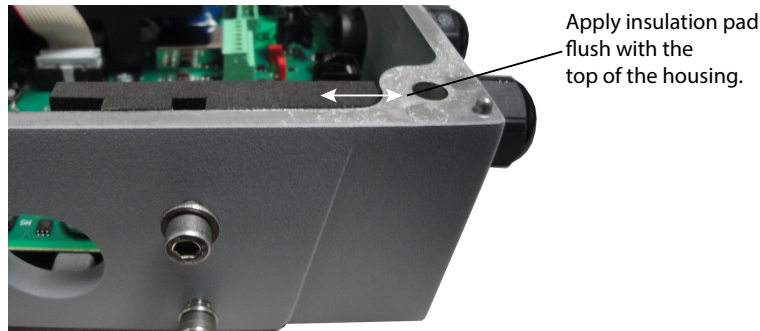

Figure 4: Installing foam insulation pad
- Prior to inserting the daughterboard, install the foam insulation pad as shown in Figure 4 on page 6. Be sure to align the groove with the two screws attaching the detector or wall mount bracket to the enclosure. The primary purpose of this pad is to ensure the daughterboard is insulated from the enclosure wall. It is important to install this pad flush with the top of the enclosure wall.